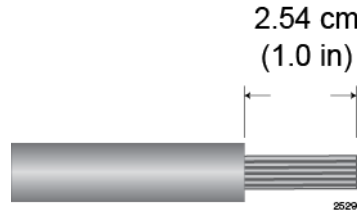

Figure 118. Stripping the solid or Stranded Grounding Wire
1. Prepare an adequate length of solid or stranded 10 AWG grounding wire by stripping it as shown in Figure 118.